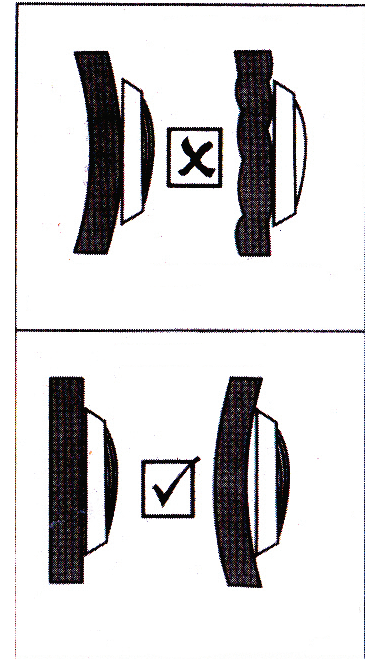

Figure 3.
3. If pool surface is to be plastered, you must allow proper concrete cutback for plaster thickness. Finish concrete surface must be flush with mounting spacer. This ensures a snug fit between light and wall, see figure 3.